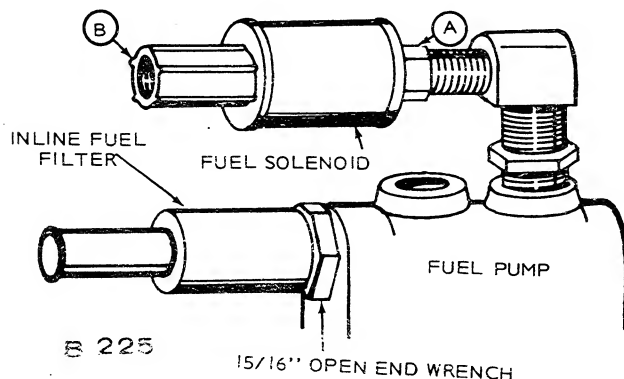

FIGURE 9. INLINE FUEL FILTER
CAUTION When removing or replacing fuel solenoid always use wrench on hex (A), Figure 9. Do not exert turning force on B because solenoid will be damaged internally.